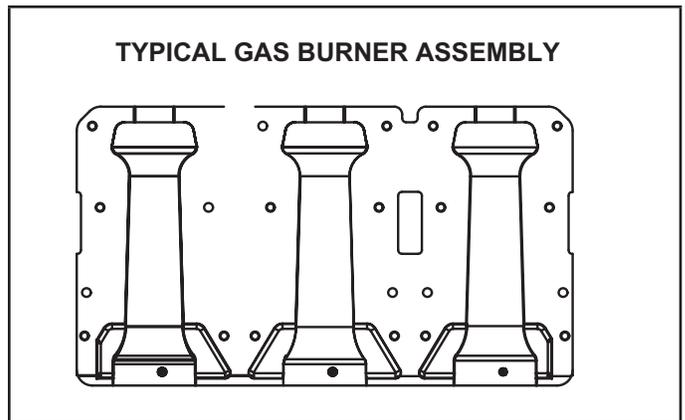

FIGURE 29
- 3 - Burner assembly is a cluster assembly (FIGURE 29) and can be removed as one.